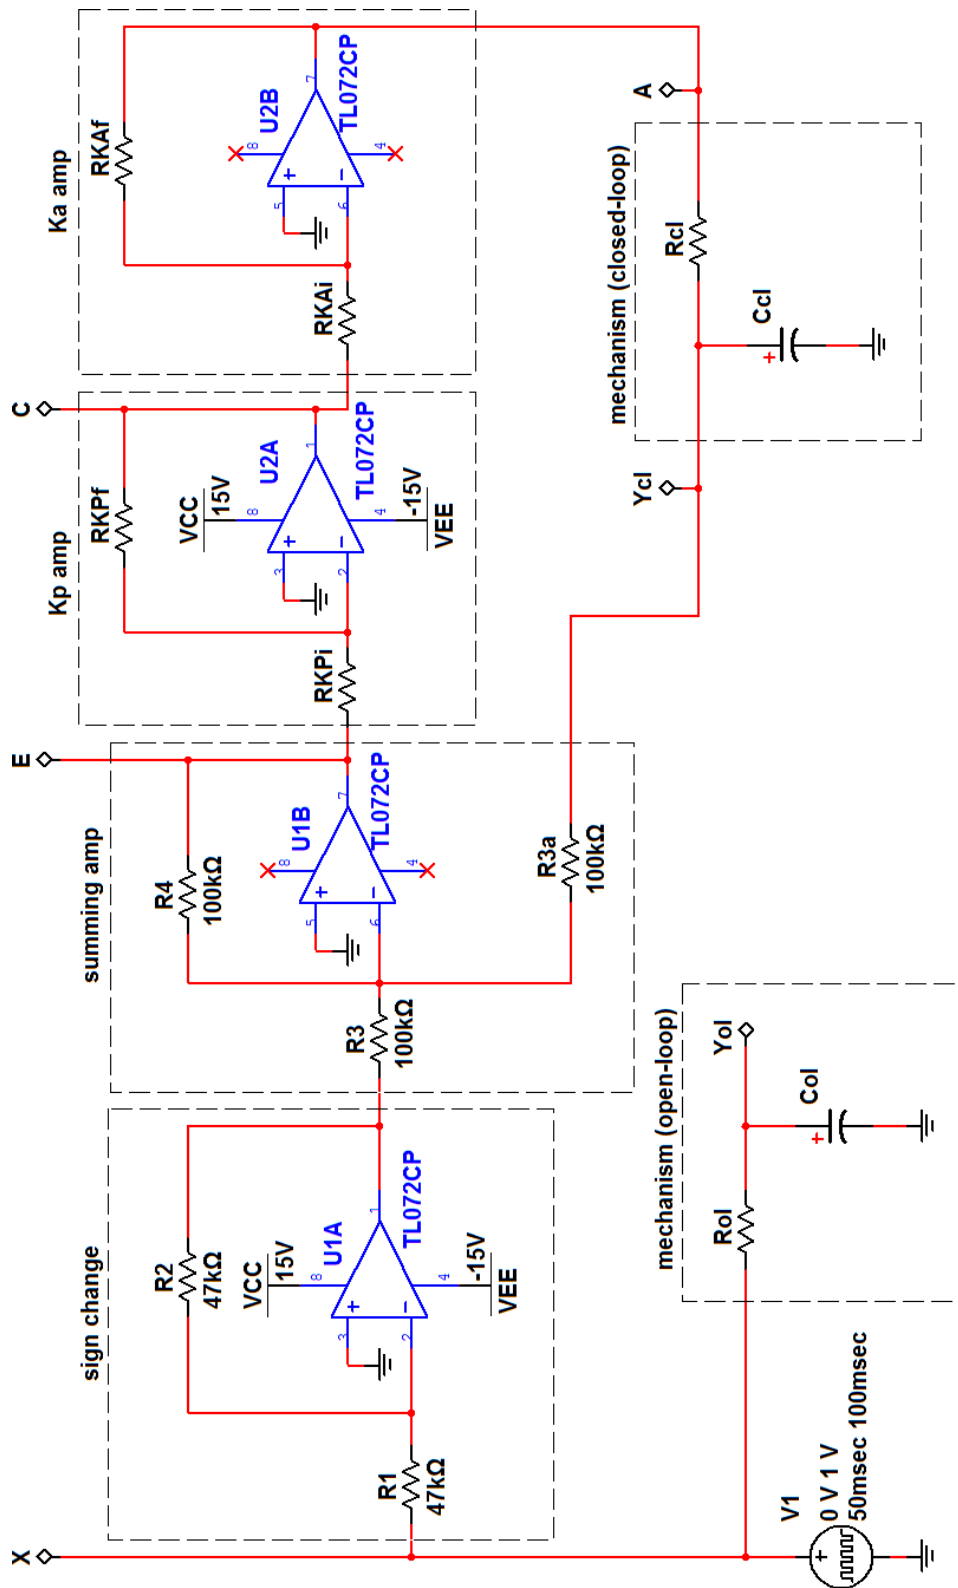

Figure 4.3: Proportional controller at the circuit level.
Figure 4.3 on page 39 shows a circuit implementation of the proportional control system using op-amp circuits from Table 4-3 of your text.
- ▶ Enter the circuit of Figure 4.3 on page 39 into NI Multisim. Use the TL072CP dual op-amp model and the PULSE_VOLTAGE source to apply a unit step control input. Place “on-page connectors” to name the signal nets of interest.
- Build the circuit of Figure 4.3 on page 39: